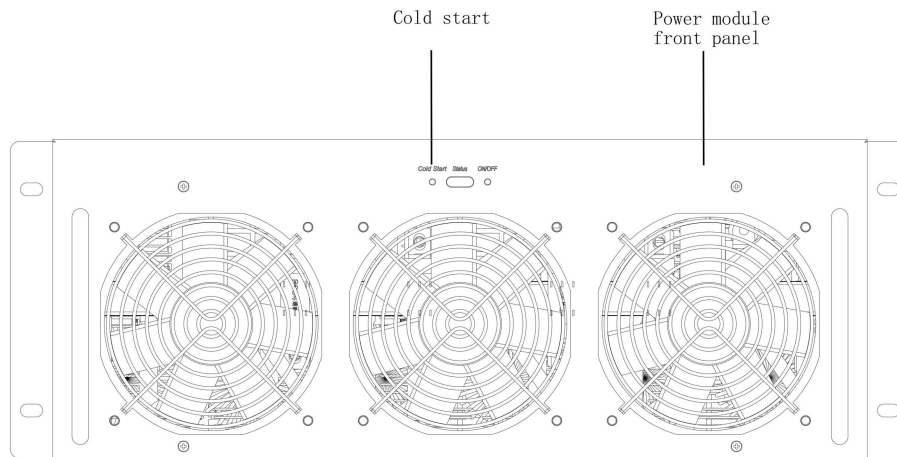

Figure 5-2 Power module battery cold start button position
3) Next, press the cold start button on the module, as shown in Figure 5-2. The module will start working, and the system will proceed with the steps following step 3 in the normal mode startup. The system first starts the rectifier, then the inverter, completing the inverter output. The entire process takes about 60 seconds, and the system will operate in battery mode.